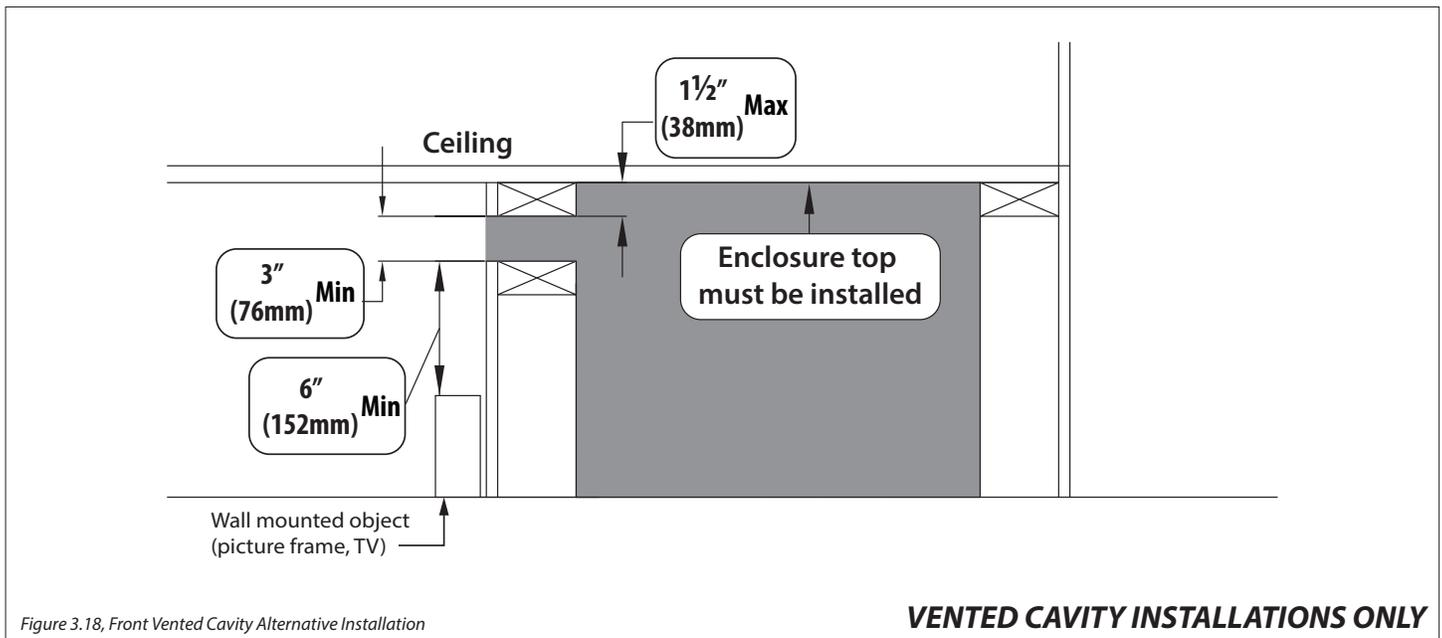

Figure 3.18, Front Vented Cavity Alternative Installation
- Figure 3.18 shows an alternative installation method where you cap off the fireplace cavity so the air discharge opening can be located further down the fireplace chamber. 1-1/2" (38mm) is the maximum drop for framing the air discharge opening to the fireplace enclosure top. This avoids trapping heat in the upper areas of the vented cavity enclosure. Framing the outlet any lower than 1-1/2" (38mm) will cause over heating create a fire hazard. This installation method can alleviate any possible concerns with paint discoloration from heat or dust.